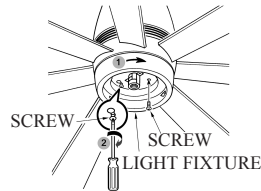

FIG.14
3. Place the light fixture into the light kit plate match with 2 loosen screws. Rotate the light fixture in a counter clockwise (to the right direction) until it is held. And tighten the screws. (see Fig.14)